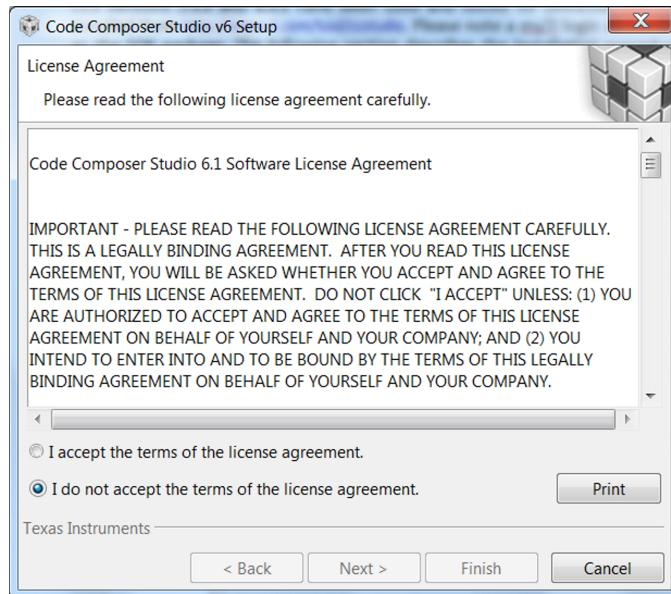

Figure 9. CCS License Agreement
- Step 2. Read through and accept the license agreement to proceed with the installation (see Figure 9).